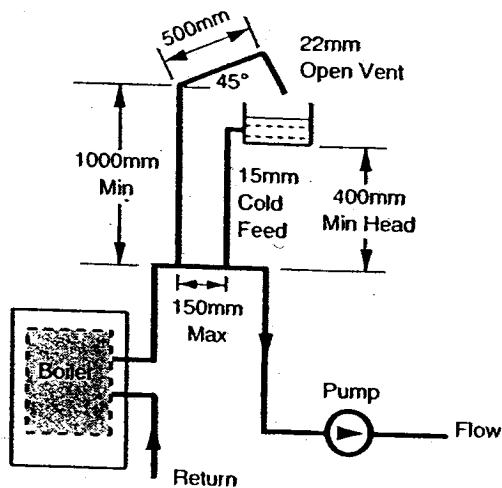

Fig. 5 Typical Low Head Installation
1. Using a close couple arrangement the minimum head is as shown in the diagrams (Figs. 5 & 6) subject to the following conditions: